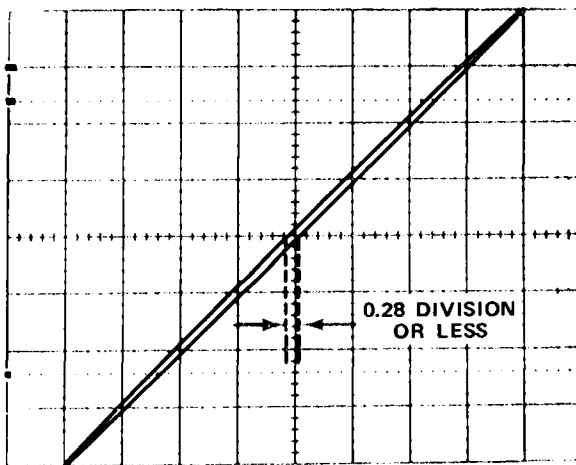

Figure 5-1. Typical crt display when checking X-Y phase shift.
- e. CHECK—The lissajous display for an opening at the center vertical line of 0.28 division or less (indicates two degrees or less of phase shift; see Figure 5-1).